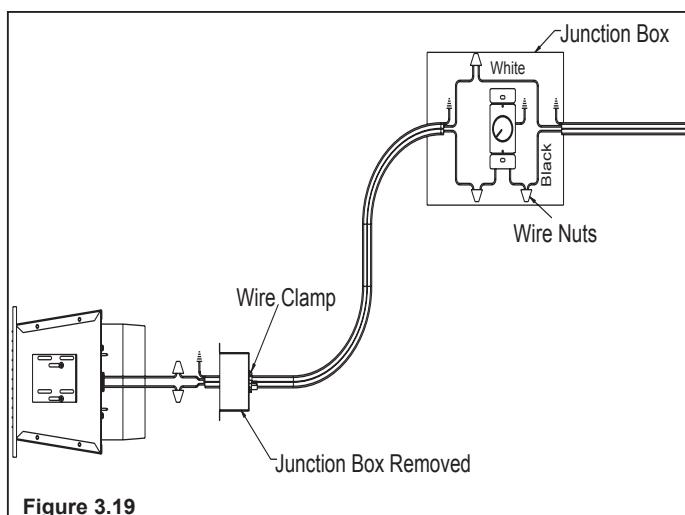

Figure 3.19
- Remove the junction box. Wire 110 VAC service TO the wall rheostat and FROM the wall rheostat to the fan junction box. Use wire nuts to secure the 110 VAC service wires to the hot (black) and neutral (white) fan wires and screw the 110 VAC ground wire to the junction box. See Figure 3.19.